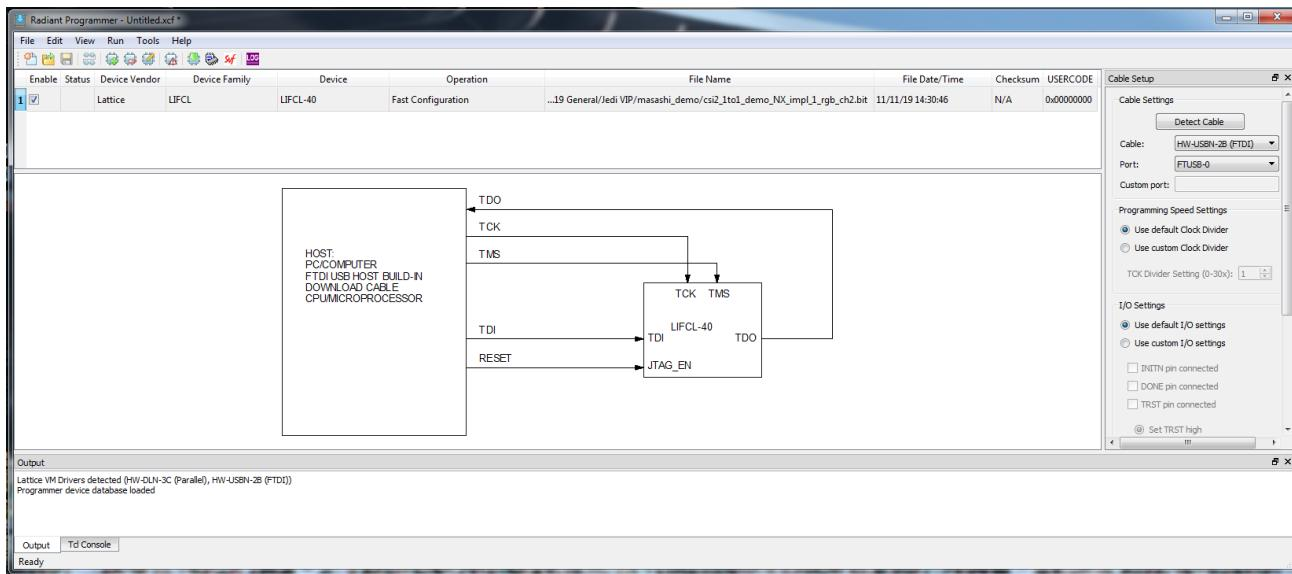

Figure 3.3. Entering File Name
2. After the board is successfully scanned, the main interface opens as shown in Figure 3.3. Enter the file name.